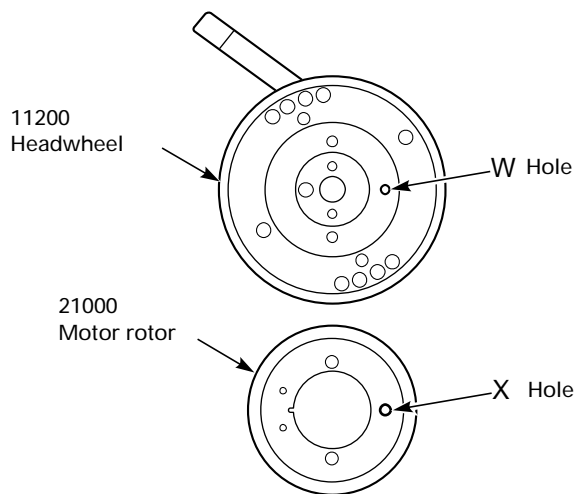

Fig. 8.39
- Undo the three screws (Pos. 10400) at the bottom of the mechanism and take the complete tape drum (Pos. 11000) out (Fig. 8.39).
Note: On reassembling the rotor (Pos. 21000) the phase must be adjusted to that of the headwheel. The hole (W) of the headwheel and the hole (X) of the rotor (Pos. 21000) must be on the same side as shown in Fig. 8.39.